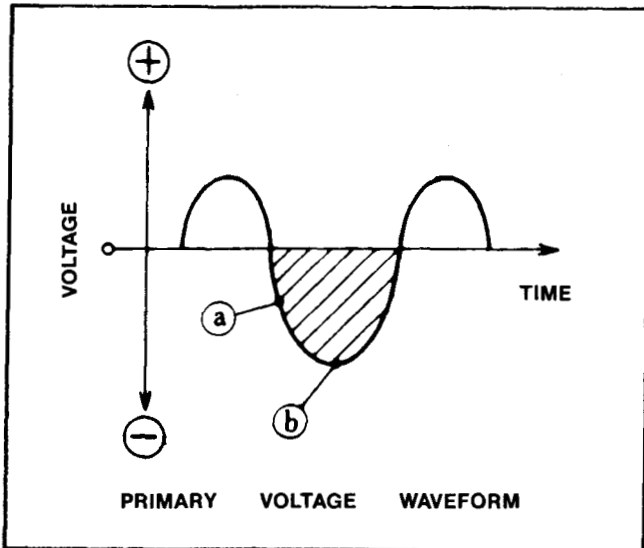
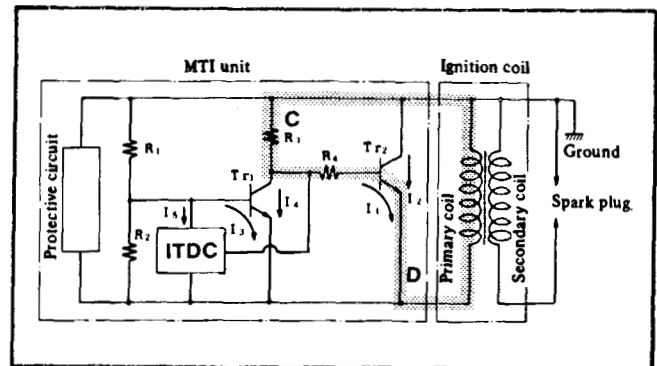
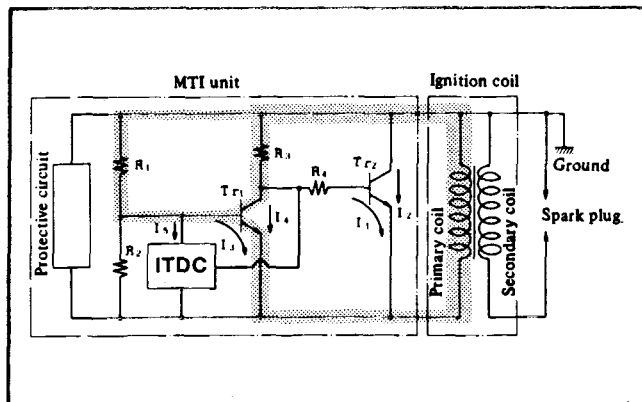

Figure 53
Figure 56
Figure 58
Before getting into the actual electronics used inside the trigger module, it is important to have an understanding of the voltage waveform produced by the flywheel magnets moving by the ignition coil. See Figure 53.
2. As the voltage begins to increase, (approximately point "a" in Figure 53) transistor Tr_2 is turned on and current flows from point "C" to point "D" through R_3 , R_4 , and Tr_2 . See Figure 56.
4. When the voltage is at the point "a" level as denoted in Figure 53, Tr_1 is still in the off mode
- As the voltage produced in the primary coil reaches its negative peak (point "b" in Figure 53), transistor Tr1 is turned on and allows small current I3 and large current I4 to flow. See Figure 58.
The spark plug is used to ignite the air/fuel mixture by producing a spark just before the piston reaches top dead center. A spark plug is typically constructed as shown in Figure 56.